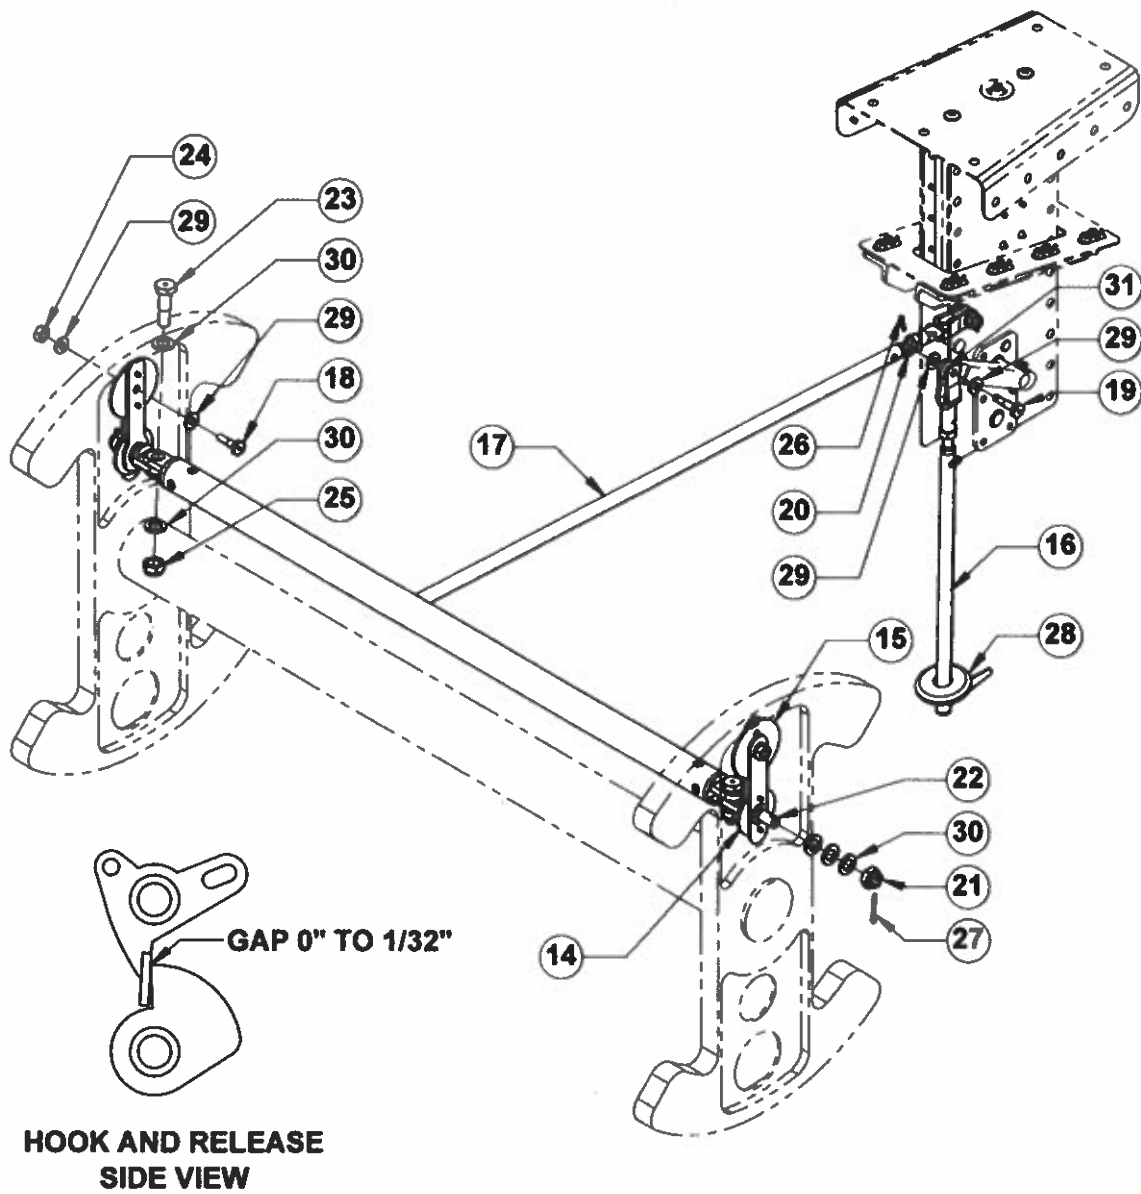

Figure 3.2 Gust Lock Linkage Installation
- b) Attach angles (2) and (13) to rudder lock (3), if not already attached, with bolts (5), washers (11) and nuts (9).
- c) Reinstall rudder lock mechanism (3) and slot doubler assembly (4) using screws (7), bolts (6), and washers (11).
- d) Reconnect the release assembly (17) to the eyebolts (22) with bolts (23), washers (30) and nuts (25).
- e) Connect the release assembly (17) and handle assembly (16) to the rudder lock (3) with bolts (19), washers (29), nuts (20) and cotter pins (26).
- (ii): Adjust length of the release assembly (17), if necessary, by turning the fork fitting in or out on its thread to assure that the hook and release gap (Fig. 3.2) is between 0" and 1/32" when the aircraft control lock is engaged.
- (iii): Adjust length of the handle assembly (16), if necessary, by turning the fork fitting in or out on its thread to assure no red on handle is visible beneath the grommet (28) when the lock is disengaged (handle up). Handle tab of assembly (16) should be parallel to the longitudinal axis of the aircraft.
- (iv): Ensure the jamb nuts on release assembly (17) and handle assembly (16) are tight against the fork fittings. Ensure the fork fitting on the handle assembly (16) is safetied to the safety wire tab on the handle to prevent it from rotating loose.
- (iii): Engage the aircraft control lock in the cabin on the control yoke. Engage the rudder lock (3), pulling down on the handle (16) to raise the pin to the 'locked' position. Check that the hook and release gap (Fig. 3.2) is between 0" and 1/32". Adjust the length of the release assembly (17) by screwing the fork fittings in and out as necessary to achieve this gap. Tighten the jamb nut against the fork fitting once the proper length is achieved.
- (v): Disengage the aircraft control lock and pull back on the yoke; the rudder lock (3) should disengage when the elevator is between the aircraft control lock position and 5 degrees up. It may be necessary to make further adjustment to the length of the release assembly (17) by screwing the fork fitting in and out to achieve proper lock disengagement in the correct range of elevator travel.
- (vi): With the rudder lock (3) disengaged, no red should be visible on the handle (16) below the grommet (28) and it should protrude below the bottom of the tail stinger/fairing by approximately 3/4 inches, to allow the operator to easily pull on the handle. If needed, the length of the handle can be adjusted by adjusting the position of the fork fitting. Once the proper length is achieved, tighten the jamb nut against the fork fitting and safety the fitting from loosening using lockwire wrapped through the fork and the safety wire tab on the handle.
- (vii): With the rudder lock (3) disengaged, pull elevator to full up position. Verify that the rudder lock cannot be engaged by pulling down on the handle (16) while the elevator is up. While pulling down on the rudder lock handle, slowly lower the elevator to ensure that the lock does not engage until the elevator is within 5 degrees of the aircraft lock position and that the elevator does not jam at any point in its motion.
- (viii): Hold the elevator in the down position. The rudder lock (3) can engage by pulling down on the handle (16). Release by pushing the handle (16) or by moving the elevator to the up position.